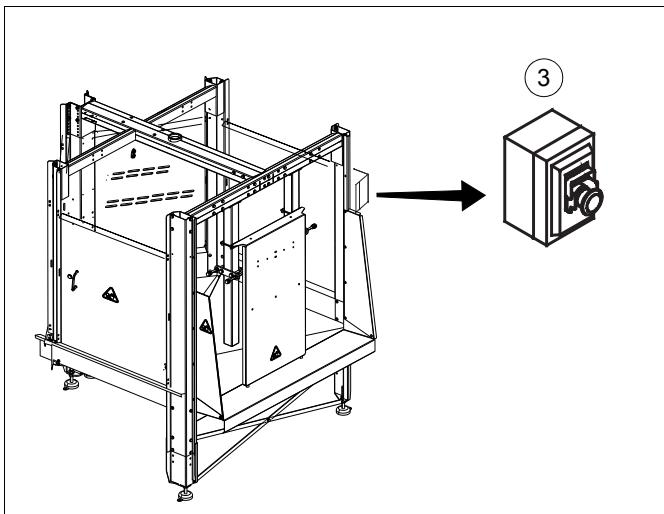

fig. 10 Emergency stop button
- Emergency stop button 3 on machine, as shown in fig. 10.